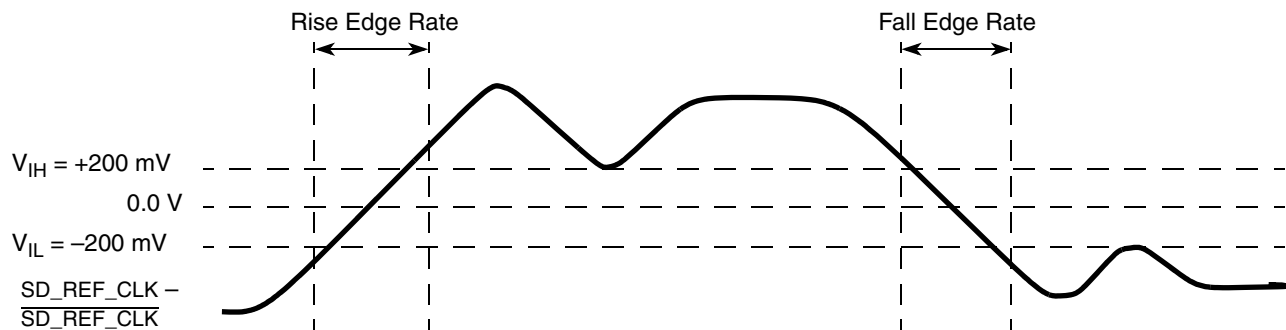

Figure 52. Differential Measurement Points for Rise and Fall Time
1. The differential waveform is constructed by subtracting the inverting signal ($\overline{SDn_TX}$, for example) from the non-inverting signal (SDn_TX , for example) within a differential pair. There is only one signal trace curve in a differential waveform. The voltage represented in the differential waveform is not referenced to ground. Refer to Figure 52 as an example for differential waveform.
- Measured from -200 mV to +200 mV on the differential waveform (derived from $\overline{SDn_REF_CLK}$ minus SDn_REF_CLK). The signal must be monotonic through the measurement region for rise and fall time. The 400 mV measurement window is centered on the differential zero crossing. See Figure 52.